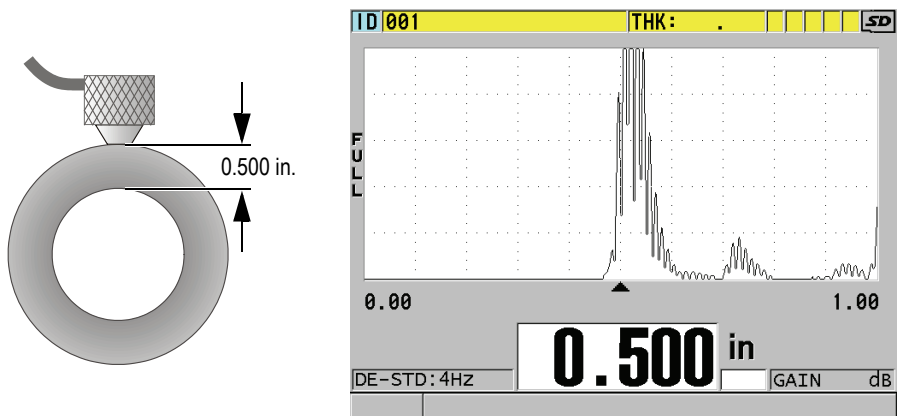

Figure 5-9 Coupling dual element transducer and reading the measured thickness
2. Using moderate to firm pressure, couple the tip of the transducer to the surface of the test material, and keep the transducer as flat as possible on the material surface (see Figure 5-9 on page 70).